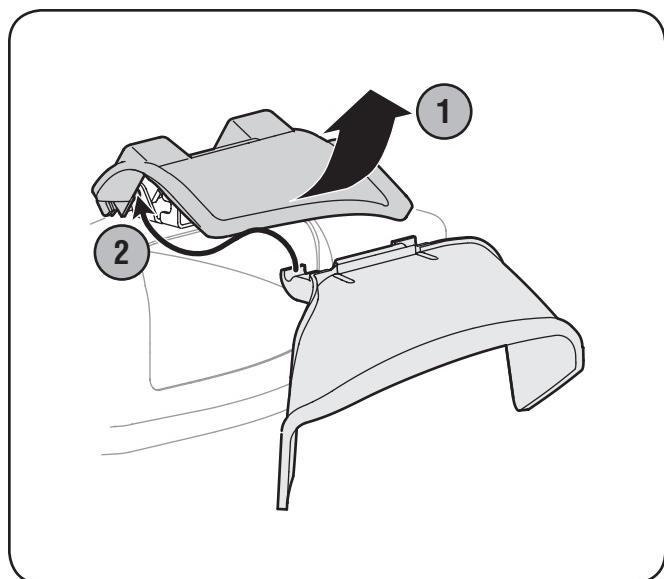

**Figure 3-4**
- Insert post on cable tie into hole provided on the lower handle. Pull cable tie tight and trim excess. See Figure 3-4.